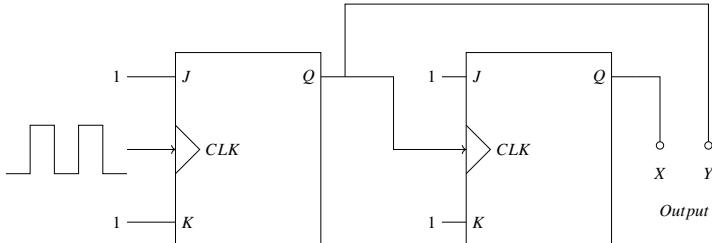

Fig. 5.17
17. The circuit shown in Fig. 5.17 below uses ideal positive edge-triggered synchronous  $J - K$  flip flops with outputs  $X$  and  $Y$ . If the initial state of the output is  $X = 0$